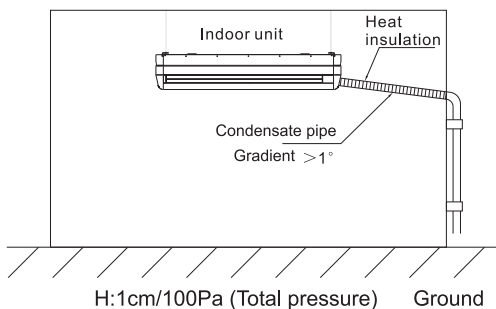

Fig 22
- e. After installing the condensate pipe, it will do leakage test through pouring some water to check whether there is a leakage at joints and drain is smooth. As for the new room, do the leakage test before laying the ceiling, please refer to Fig 22.